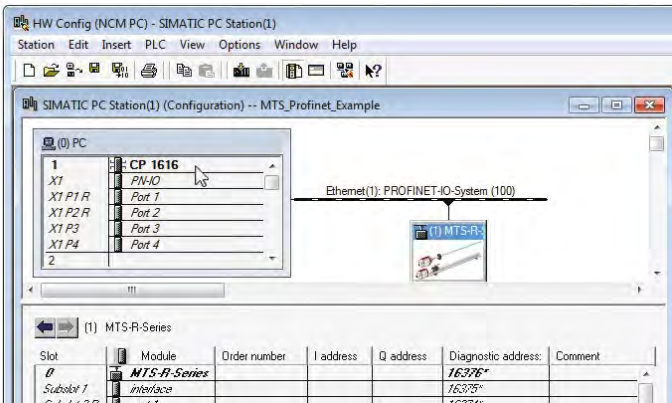

Fig. 73: Add sensor to the network (source: Siemens)
2. Select for U401 the file “MTS R-Series firmware version 1.0 (EP)”. Drag and drop this file from the directory and drop it into the network (dashed line). The sensor has been added to the network (Fig. 73).